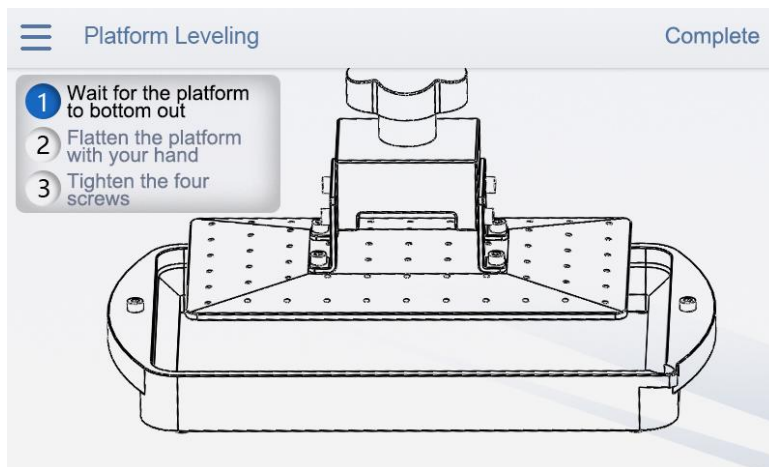

Figure 3-13
4. After completing the operation, click **【Complete】** as shown in figure 3-13 to finish the leveling process.